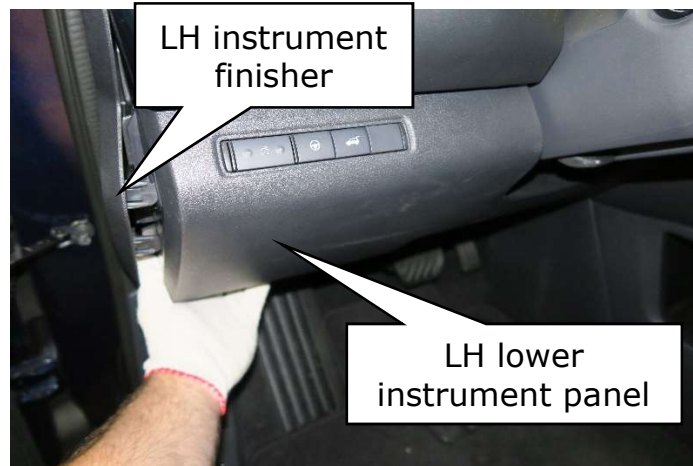

Figure 3
4. While holding the LH instrument finisher away from the LH lower instrument panel, carefully pull the lower LH instrument panel toward the rear of the vehicle to release the clips as shown in Figure 3.